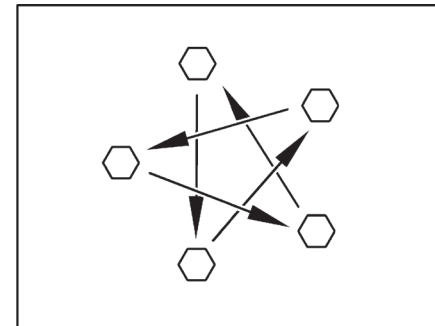

Fig. 200 Tighten the wheel nuts or wheel bolts cross-wise
- Check regularly that the wheel nuts or wheel bolts are firmly seated. Re-tighten the wheel-bolts of a changed wheel cross-wise after 50 km (30 miles) (Fig. 200).
- ▶ Tighten the wheel nuts or wheel bolts cross-wise (Fig. 200).